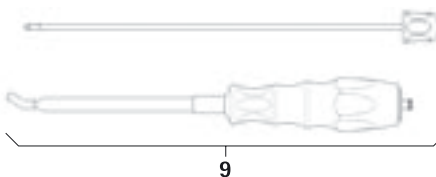

Fig. 4
- To dismount rod insertion instrument 9, see Fig. 4: